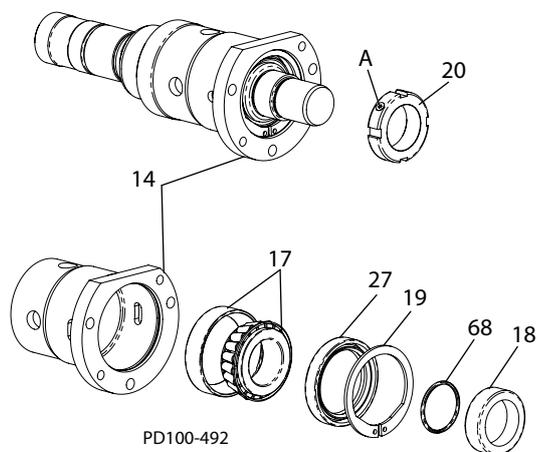

Figure 42 - Remove Bearings
1. Loosen the locking setscrew(s) (Figure 42, item A) in the bearing adjustment nuts (item 20) and remove the bearing adjustment nuts.